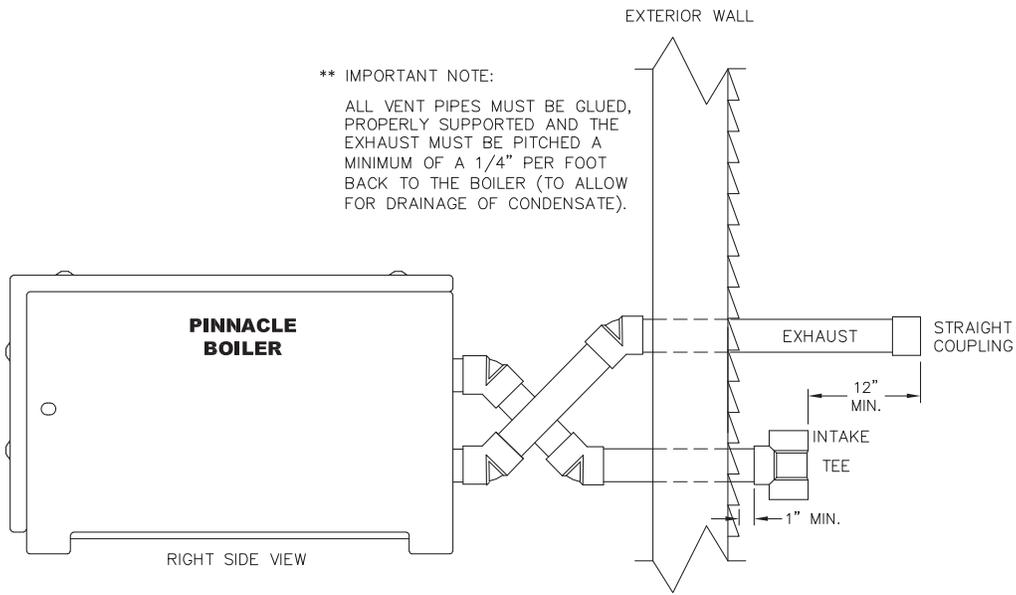
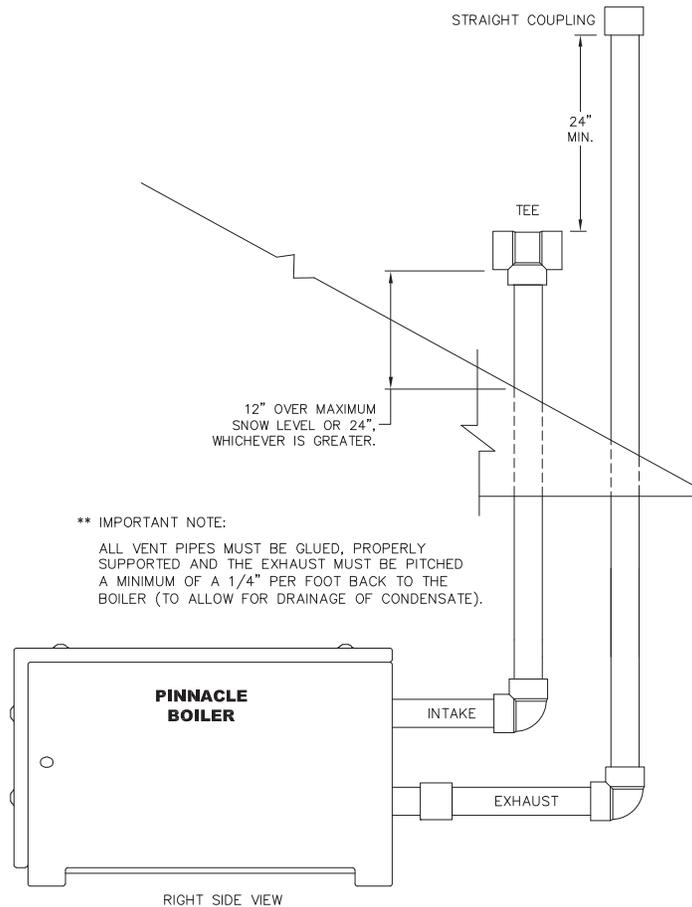
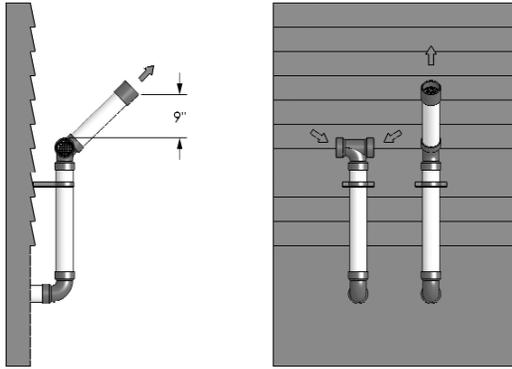

Figure 5.3: PI-399 Sidewall Venting with 4" Pipe (Exhaust Termination at Higher Elevation than Air Intake).
Figure 5.6: PI-399 Vertical Venting with 4" Pipe.
Figure 5.7: Sidewall Venting Below Grade
- 11. Refer to Figure 5.3 to 5.5 for sidewall venting and Figure 5.6 for vertical venting. Refer to Figure 5.7 for sidewall venting below grade.